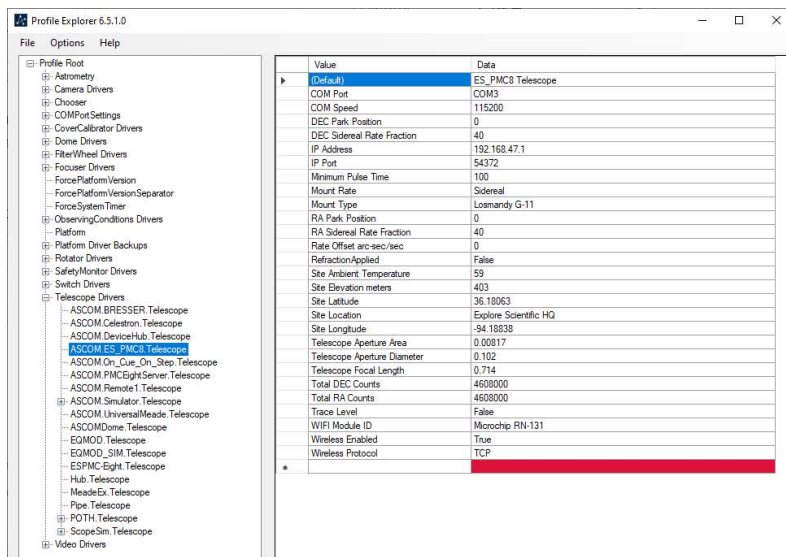

Figure 2. ASCOM Profile Explorer.
2. Remove the existing driver profile by starting the ASCOM Profile Explorer and removing the highlighted Telescope Driver shown below in Figure 2 – ASCOM.ES_PMC8.Telescope. Just right click on it and Select “Del Key”
6. After installing the new ASCOM Driver, you should run the Profile Explorer again and compare the settings to those shown in Figure 2. Note that there are now two Sidereal Rate Fraction Values, one each for RA and DEC.